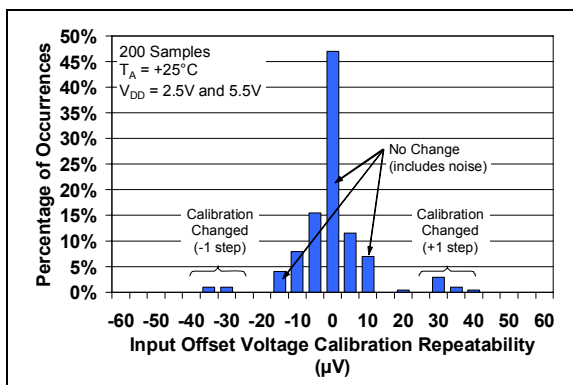

FIGURE 2-3: Input Offset Voltage Calibration Repeatability (repeated calibration).
- 2:** Increment between adjacent V_{OS} trim points; Figure 2-3 shows how this affects the V_{OS} repeatability.